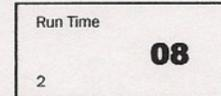
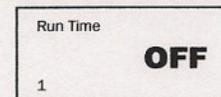

FIGURE 6
FIGURE 7
STEP 7: Your display should look like FIGURE 6. At this point refer to STEP 4 and repeat as you did when setting your first feeding. The only difference will be the number 2 in the lower left hand side of the display which is indicating that this is concerning your second feed time. *At this stage of programming your unit, if you do not want to use the second feed time, set the run time to 00. The display will automatically show "OFF". This will end the second feeding.* Even though the second feed time was set, the run time being set to 00 will end your programming session. The screen will look like FIGURE 7.